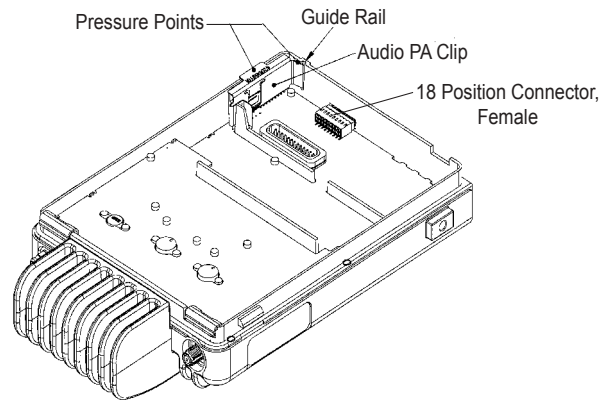

Figure 5-22. Inserting Audio PA Clip
- Install the Audio PA clip to the corner of the chassis (per Figure 5-22) by applying downward, equal pressure to the side and main tab of the clip. Side pressure on the clip will negatively impact heat sinking of the 5 V Regulator and Audio PA. The placement tab should rest flush against the top of the chassis wall.